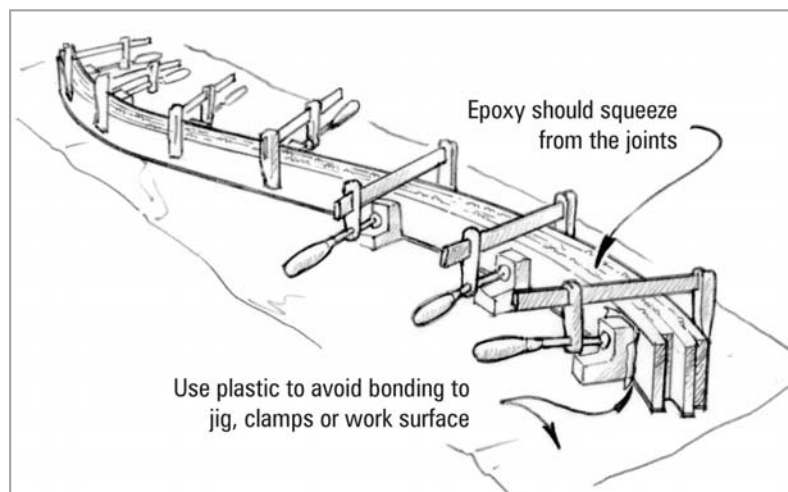

Figure 4-2 Clamp the appropriate number of coated strips into the jig. Trim the frame to size after the epoxy is fully cured.
4. Clamp the strips to the jig until the epoxy cures (*Figure 4-2*). Use clamps, wedges, staples or small nails to apply enough pressure to squeeze a small amount of epoxy from each joint.